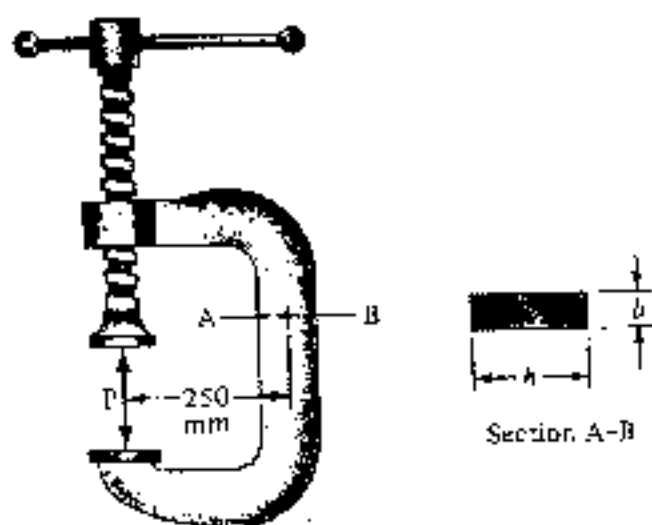

Fig. 2
2. The C clamp in Fig. 2 is tightened until $P = 4 \text{ kN}$. If $h = 1.6b = 80 \text{ mm}$, calculate